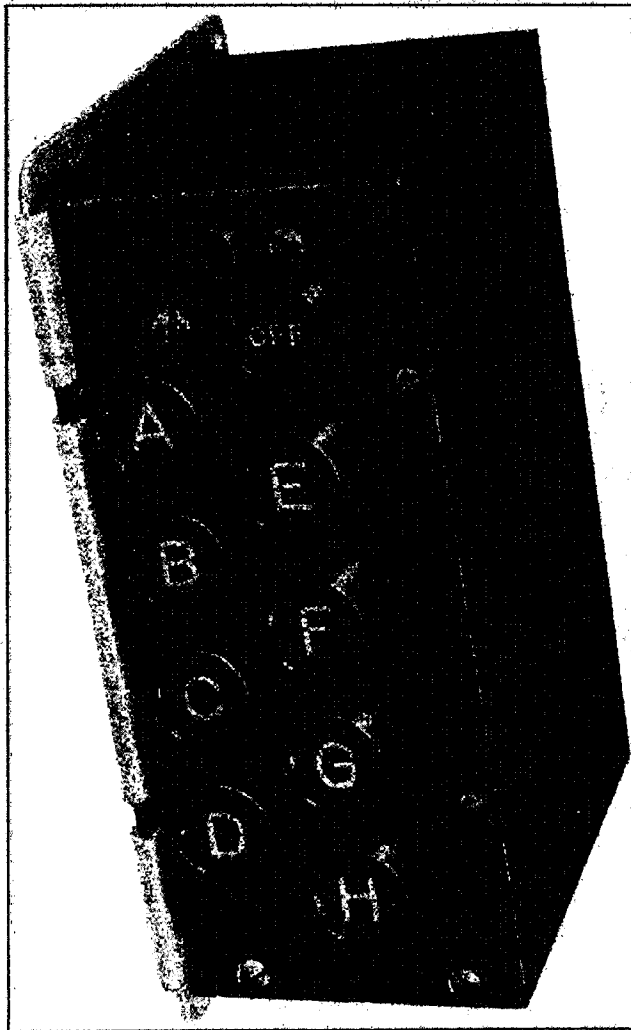

Figure 19. Control Box C-118/ARC-3
(1) STARTING THE EQUIPMENT.—Push any one of the eight red channel-selector buttons designated from "A" to "H," located on the front panel of the Control Box. (See fig. 19.) This automatically releases the "OFF" button and applies power to the equipment.
(2) STOPPING THE EQUIPMENT.—Push the black "OFF" button and the small metal lock button *at the same time*. Both of these buttons are located on the front panel of the control box.
a. **STARTING THE EQUIPMENT.**—Push any one of the eight red channel-selector buttons designated "A" to "H," located on the front panel of the Control Box. (See fig. 19.) This automatically releases the "OFF" button and applies power to the equipment.
panel of the Control Box. (See fig. 19.) The small interlocking black button is provided to prevent the equipment from being accidentally turned off.
(2) Push any one of the eight red channel-selector buttons designated "A" to "H," located on the front panel of the Control Box. (See fig. 19.) Allow a warm-up period of approximately 30 seconds. Toward the end of this period an audio tone will be heard in the headsets. When this tone stops, the Receiver and the Transmitter have been tuned to the selected channel and reception should now be possible.